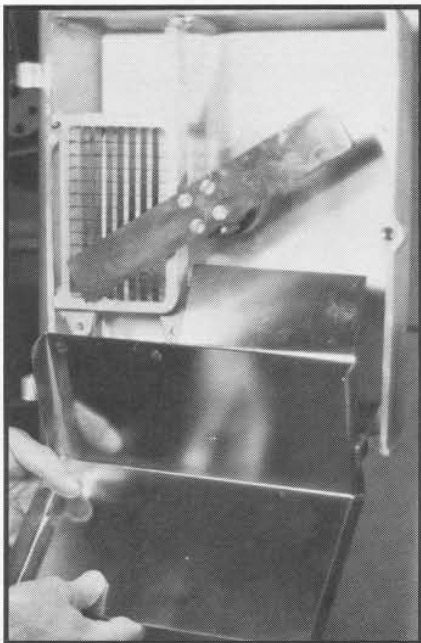

FIGURE 6
Install separator skid (K) by inserting the 2 pins (shown) into holes on bottom of Cuber (I-2) or French Fry grid. [Figure 6]